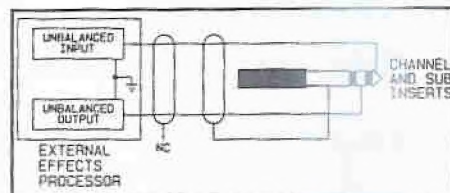

Figure 3. Typical insert connection.
Signal processing equipment may easily be inserted in the signal path by using the 1/4-inch phone (TRS) insert connectors. The external device must have line level unbalanced inputs and outputs. The output signal from the mixing console is on the *Tip* and the input signal is on the *Ring*. The *Sleeve* is ground. Refer to Figure 3 for a typical insert connection.
7. **INSERT L and R (SUB L and SUB R):** A space-saving 3-conductor (stereo) phone jack is used for both output from SUB L and SUB R respectively, and for the return to the mixer's master section from an external processing device. Be sure that the device that is to be patched in has line level unbalanced inputs and outputs. The signal at the insert jack can drive loads of 2000 ohms or greater and the external processing device should have a low output internal impedance (100 ohms or less). Refer to Section 3.3 of this manual and Figure 3 for proper connections.
(stereo) phone jack is used for both output from the input channel and for the return to the input channel from an external processing device. Be sure that the device that is to be patched in has line level unbalanced inputs and outputs. The signal at the insert jack can drive loads of 2000 ohms or greater and the external processing device should have a low output internal impedance (100 ohms or less). Refer to Section 3.3 of this manual and Figure 3 for proper connections.